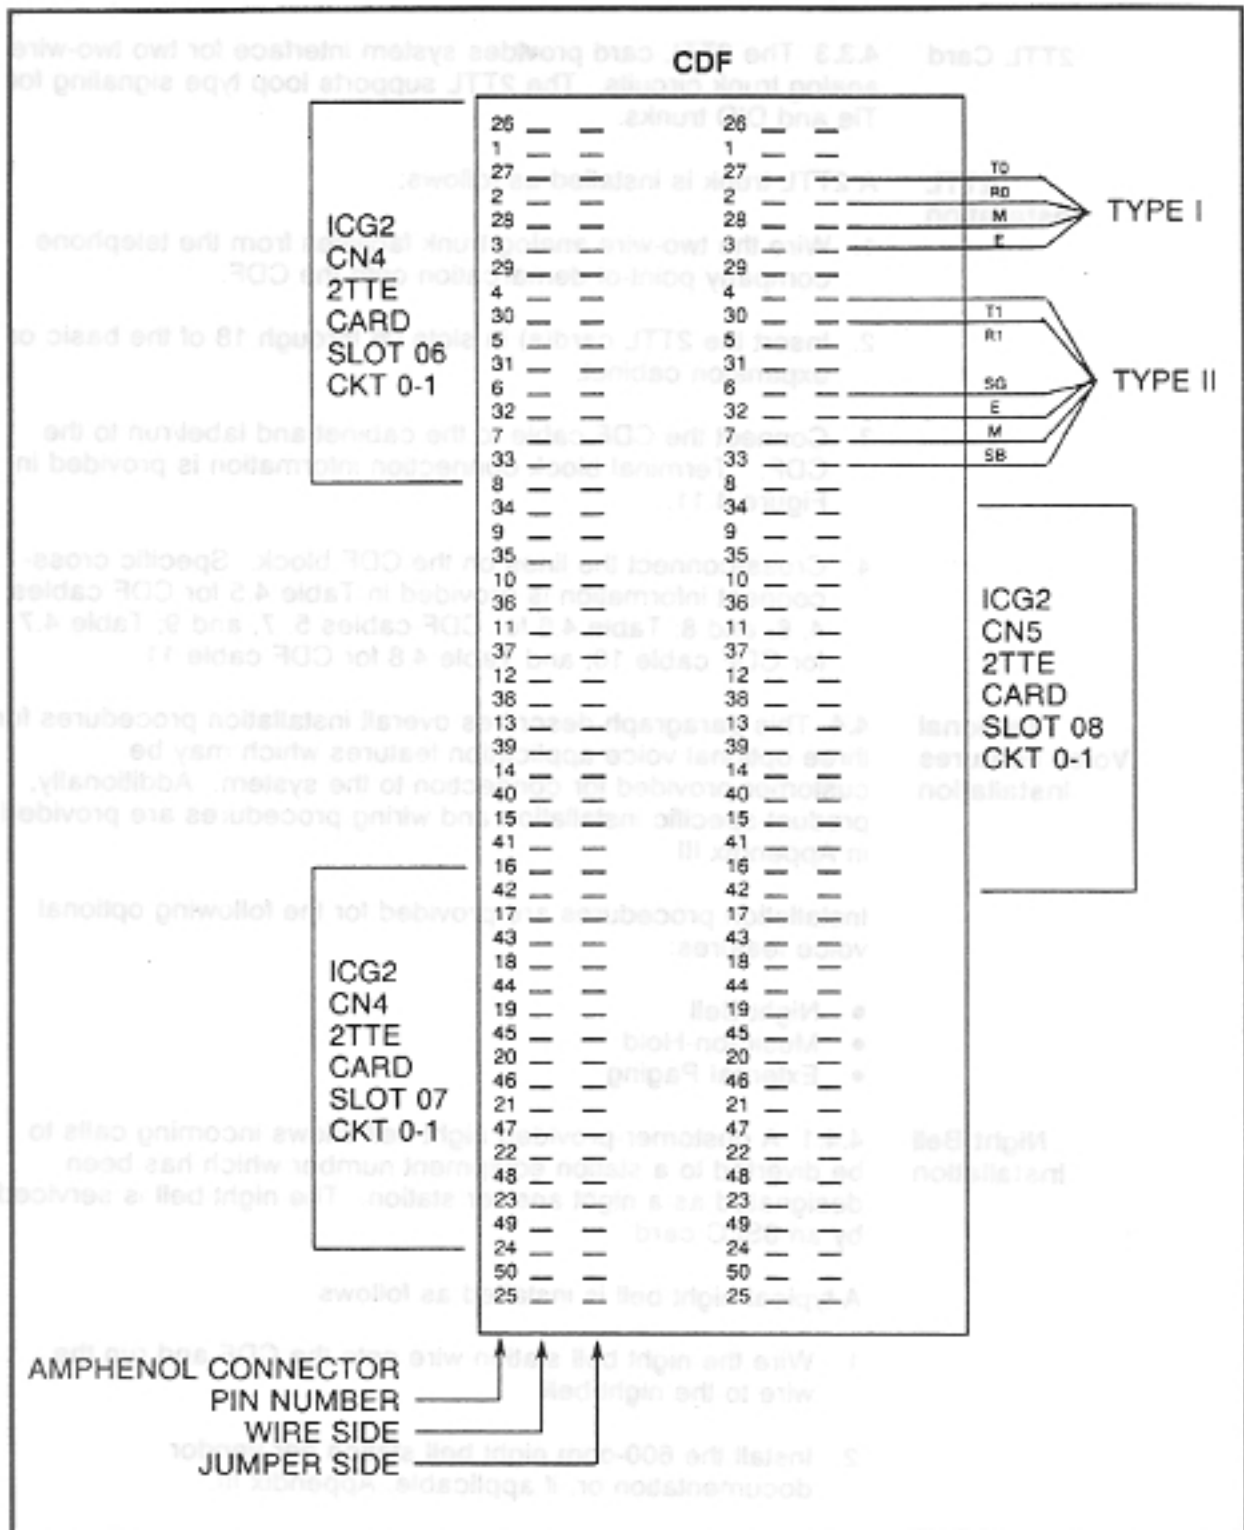

Figure 4.12 Typical CDF Terminal Block Connection for 2TTE Card
4.3.2 The 2TTE card provides system interface with two E&M signaling circuits used to interconnect Tie trunks and DID terminals. The 2TTE supports trunks using both Type I and Type II E&M signaling. Type I E&M signaling uses two leads (E and M), while Type II E&M signaling uses four leads (E, M, SG, and SB). E&M Type I requires 2-pair wiring and Type II requires 3-pair wiring. Typical wiring and cross-connect information for both types of signaling are shown in Figure 4.12.
1. Wire the two-wire analog trunk facilities and two- or four-wire DC signaling facilities from the telephone company point-of-demarcation onto the CDF. A typical example is shown in Figure 4.12.
3. Connect the CDF cable to the cabinet and label/run to the CDF. Terminal block connection information is provided in Figure 4.12.